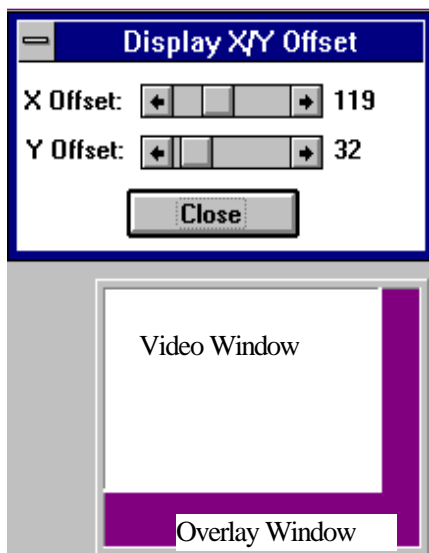

Figure 3-23.
5. **CLICK** on “Overlay Key Control” to set VGA Color Key to a color key value other than the default. **CLICK** on “Display X/Y Offset” to adjust the video window within the overlay window. When the video window is centered, it will completely cover the overlay window (see Figure 3-23).